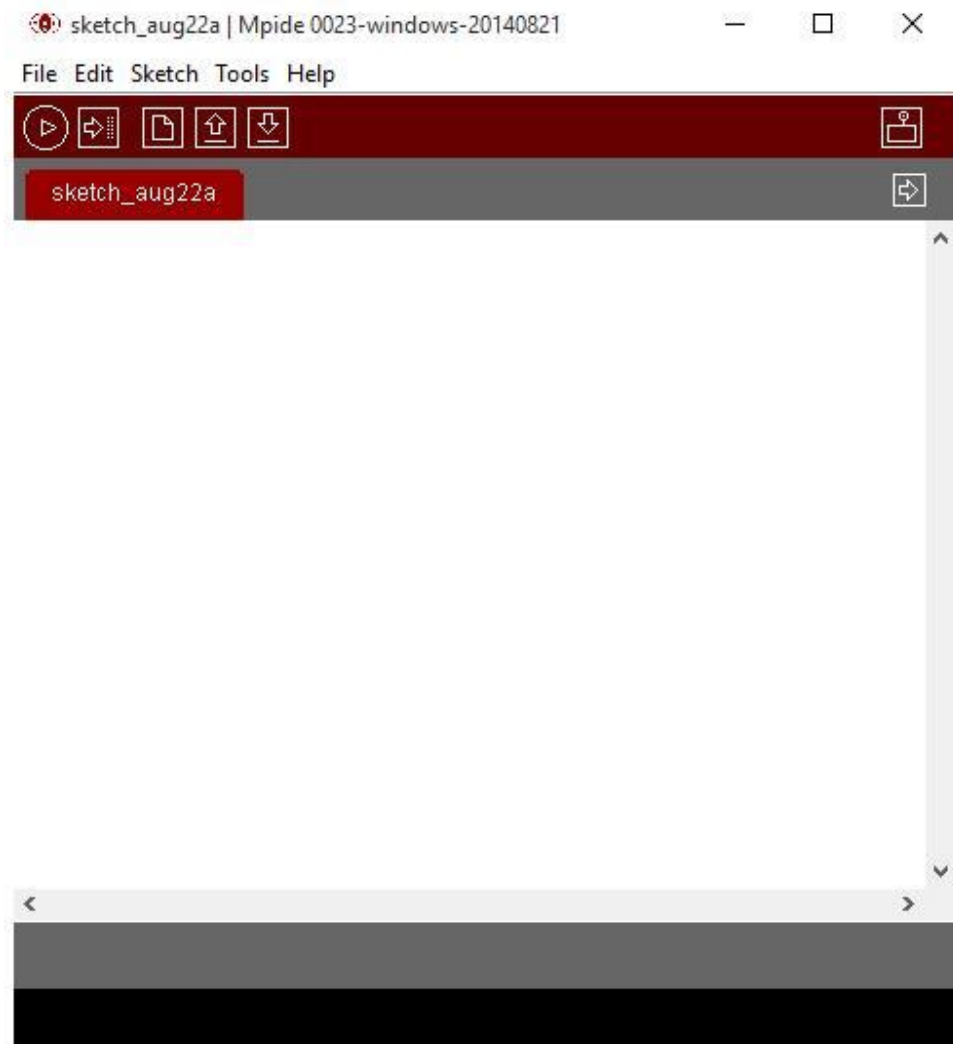

Figure 1-2 MPIDE window
1. Launch the MPIDE by selecting the MPIDE icon on the PC desktop. Initially, a blank window as shown in Figure 1-2 will appear.